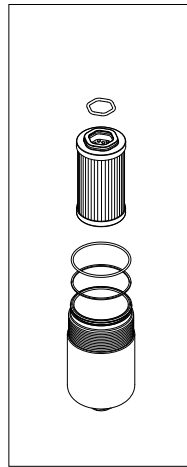

fig. 11
- (Fig. 11) Fit 1°: the anti-extrusion ring and 2°: the O-Ring in the bowl groove, insert the Hex Ring in the filter element cap